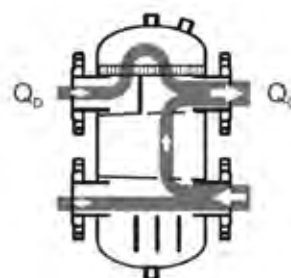

Fig 3
- Fig 3 – When the heating demand increases, the flow rate in the secondary circuit is increased. The return temperature to the boiler will fall, which indicates that boiler output should be increased.